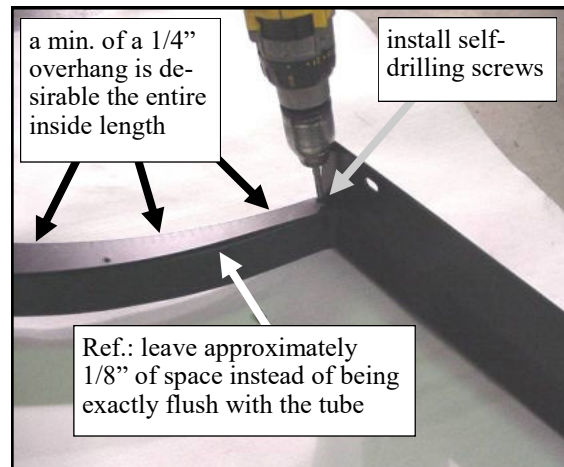

Fig. 4.2 Attaching Contour pieces
4.2 Attach one contour to the inside edge of each side frame using five self-drilling screws. See fig. 4.2. Note: extra screws are provided in case one gets lost. Be sure to select the appropriate contour for the specific tractor model number. The wider pair is for the 2320. The narrow pair is for the 2520/2720. Place the intentional identification notch towards the rear of the side frame (see figure 4.3). Start by using the 1/8" shy of flush approach to the outer radius of the bent tubing and adjust only where necessary to guarantee at least a minimum of 1/4" overhang on the inside radius so there will be sufficient room to accept the bulb rubber to be installed next. Repeat for opposite side.